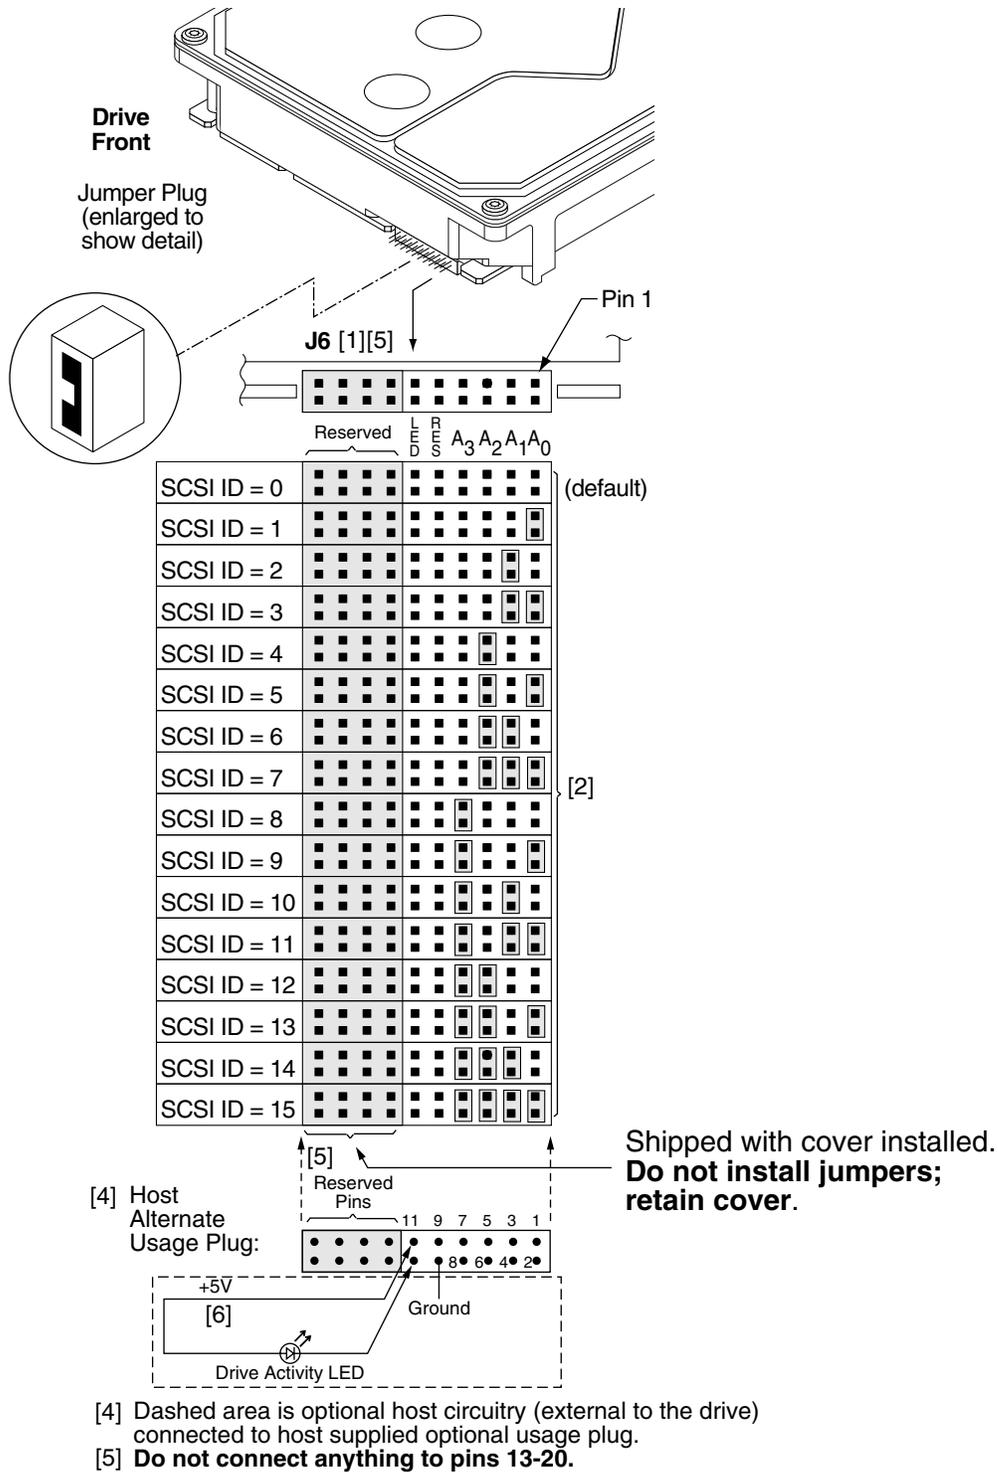
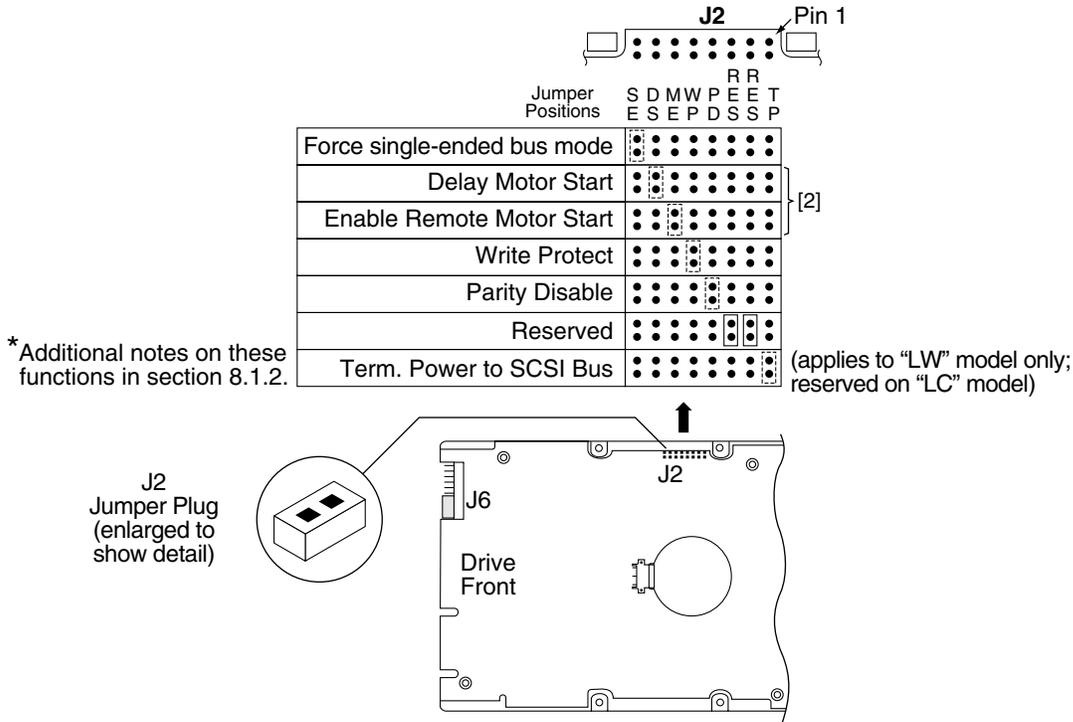

Figure 15. J6 jumper header
Figure 17. J2 option select header
For option jumper locations and definitions refer to Figures 15, 16, and 17. Drive default mode parameters are not normally needed for installation. Refer to Section 9.3.2 for default mode parameters if they are needed.
Figures 15 and 16 show views of the drive ID select jumper connectors. Figure 17 shows the option select jumper connector for all models. Figure 15 shows the drive's J5-Auxiliary jumper connector. Both J5-Auxiliary and J6 have pins for selecting drive ID and for connecting the remote LED cable. Only one or the other should be used, although using both at the same time would not damage the drive. The notes following the figures describe the functions of the various jumper positions on the connectors J2, J5-Auxiliary and J6. See your local sales representative for suggested part number. A bag with the two jumper plug types is shipped with the standard OEM drives.
8.1.1 Notes for figures 15, 16, and 17.
- [6] Connect an external Drive Activity LED to J6 pins 11 and 12 (see Figure 15), or to J5 pin 8 (see Figure 16) and the drives +5V power source, through an appropriately sized current limiting resistor. The drive provides an internal 150 ohm current limiting resistor for the J6 connection.